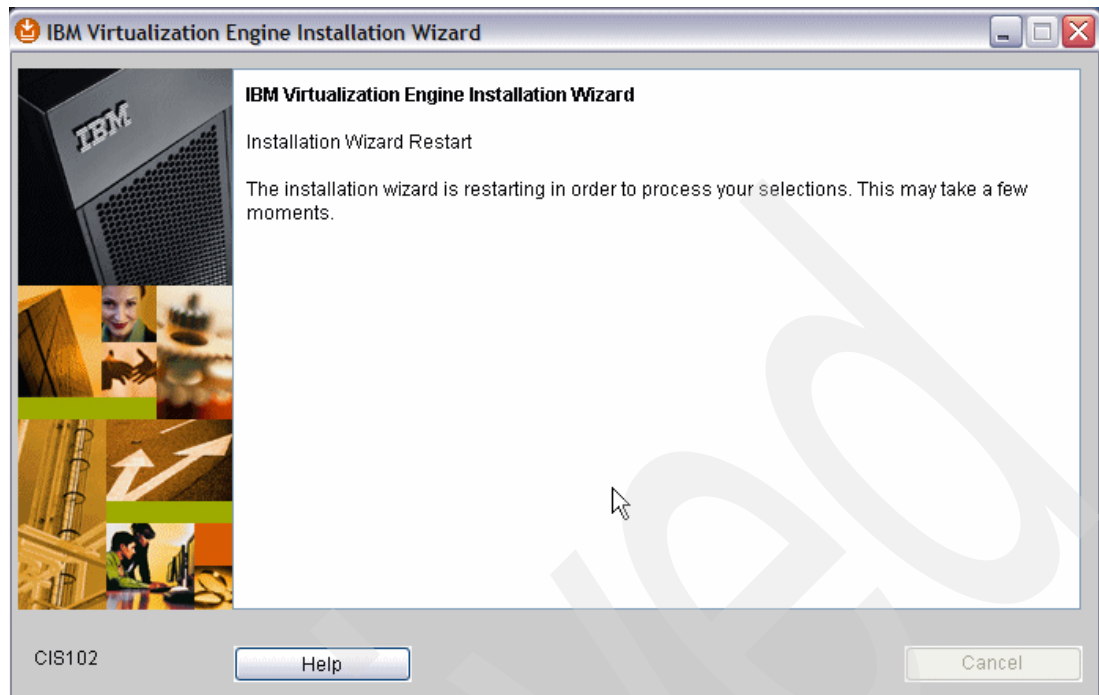

Figure 5-20 Installation Wizard Restart window
15. An Installation Wizard Restart window (Figure 5-20) opens again, wait a few moments.